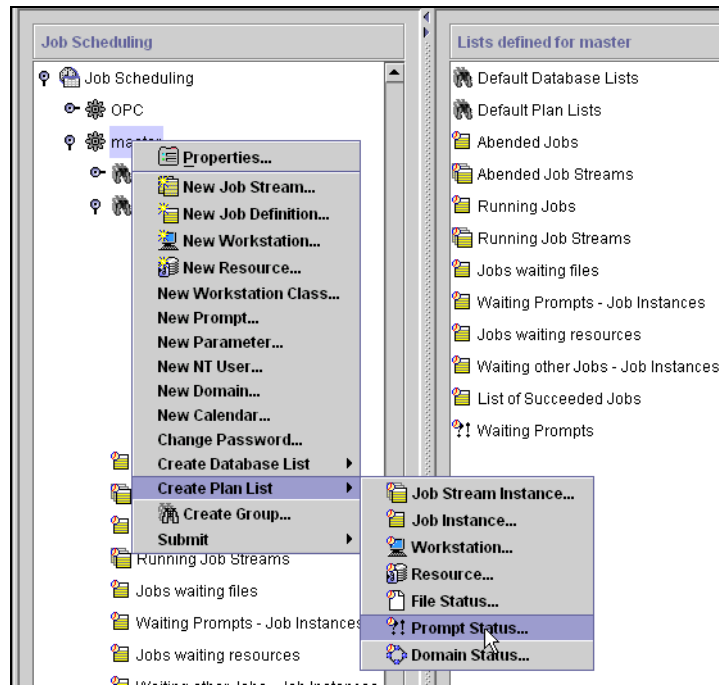

Figure 92. Create New Prompt Status list
1. Select **Create Plan List->Prompt Status** from JSC as shown in Figure 92 on page 121.